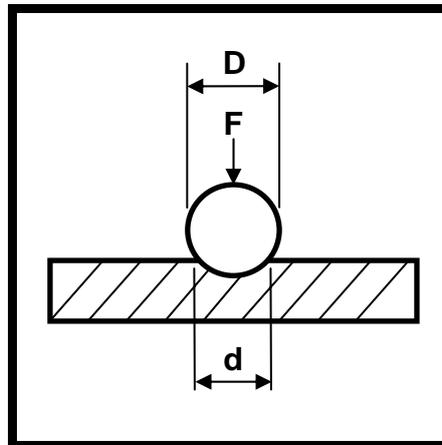

FIGURE 1.2
- D Grinding wheels should be guarded. (1)
- 1.3 What does the symbol "d" denote in the Brinell hardness test shown in FIGURE 1.2?